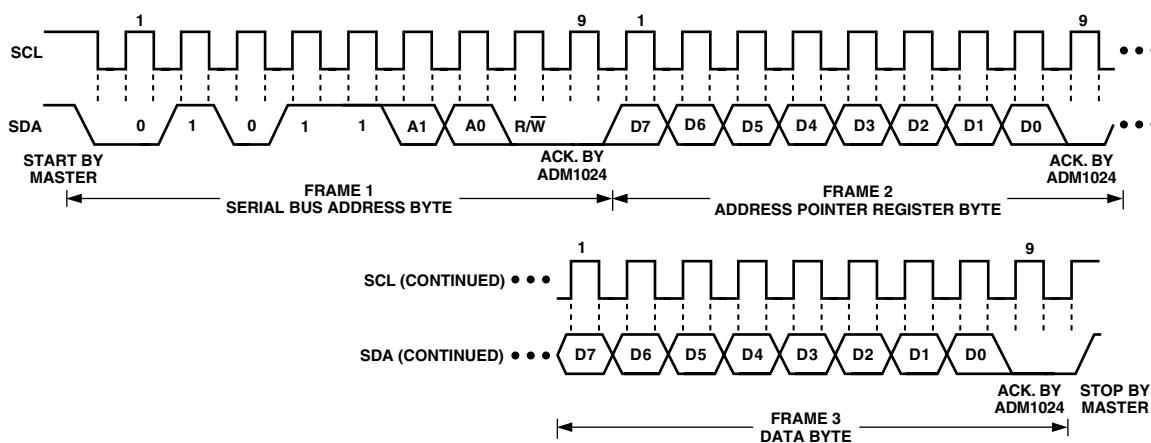

Figure 9a. Writing a Register Address to the Address Pointer Register, then Writing Data to the Selected Register
To write data to one of the device data registers or read data from it, the Address Pointer Register must be set so that the correct data register is addressed, then data can be written into that register or read from it. The first byte of a write operation always contains an address that is stored in the Address Pointer Register. If data is to be written to the device, the write operation contains a second data byte that is written to the register selected by the address pointer register. This is illustrated in Figure 9a. The device address is sent over the bus followed by R/\overline{W} set to 0. This is followed by two data bytes. The first data byte is the address of the internal data register to be written to, which is stored in the Address Pointer Register. The second data byte is the data to be written to the internal data register.
- In Figures 9a to 9c, the serial bus address is shown as the default value 01011(A1)(A0), where A1 and A0 are set by the three-state ADD pin.